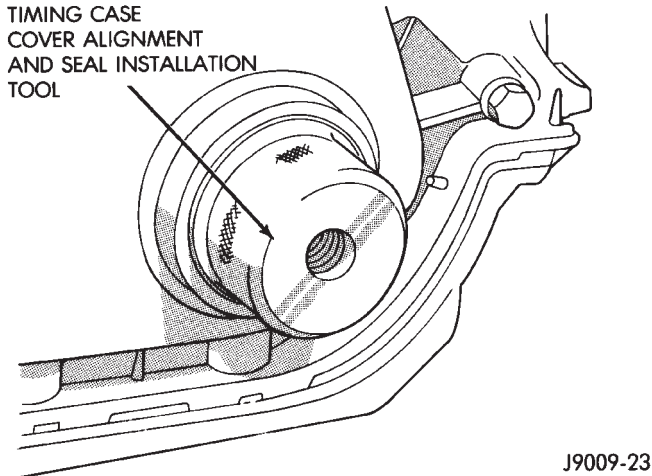

Fig. 53 Timing Case Cover Alignment and Seal Installation Tool 6139
(8) Check the valve timing.
(9) Coat both sides of the replacement timing case cover gasket with gasket sealer. Apply a 3 mm (1/8 inch) bead of Mopar Silicone Rubber Adhesive Sealant, or equivalent to the joint formed at the timing case cover and cylinder block.
(10) Position the timing case cover on the oil pan gasket and the cylinder block.
(11) Place Timing Case Cover Alignment and Seal Installation Tool 6139 in the crankshaft opening of the cover (Fig. 53).